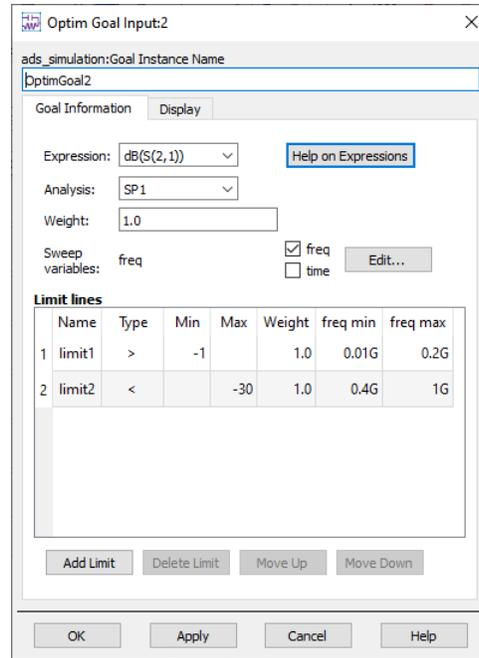

Figure 11. Goal 2
2. Open the second goal block. This goal block is shown in Figure 11. Set the following parameters for the goal. When finished, press **OK**.